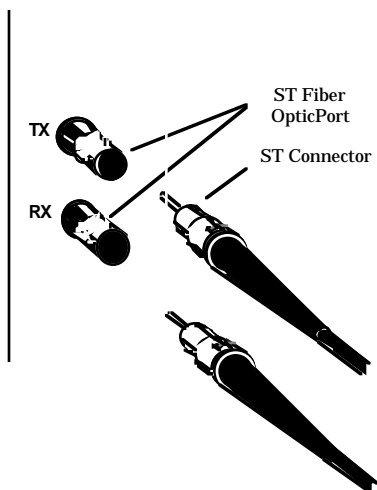

Figure 3-3 ST Fiber Optic Ring Connections
4. Attach the fiber optic cables according to labeling. Attach the Transmit cable to the appropriate TX (ST) connection at the
front of the repeater (see Figure 3-3). Attach the Receive cable at the appropriate RX (ST) connector.